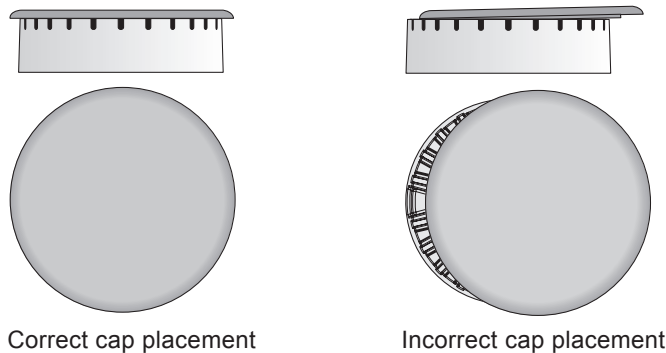

Figure 20: Burner cap placement
2. Make sure each burner cap is properly aligned and level, as shown in Figure 20. Burners may not light or burn evenly if the burner caps are not correctly placed on the head.